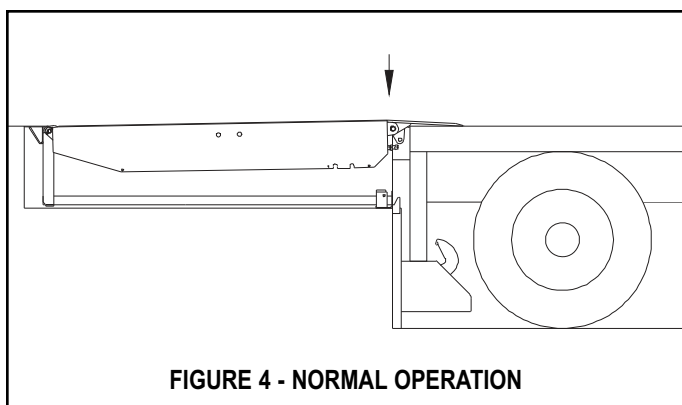

FIGURE 4 - NORMAL OPERATION
2. When lip is fully extended, release RAISE button. The leveler will automatically lower onto the truck/trailer bed. See figure 4.